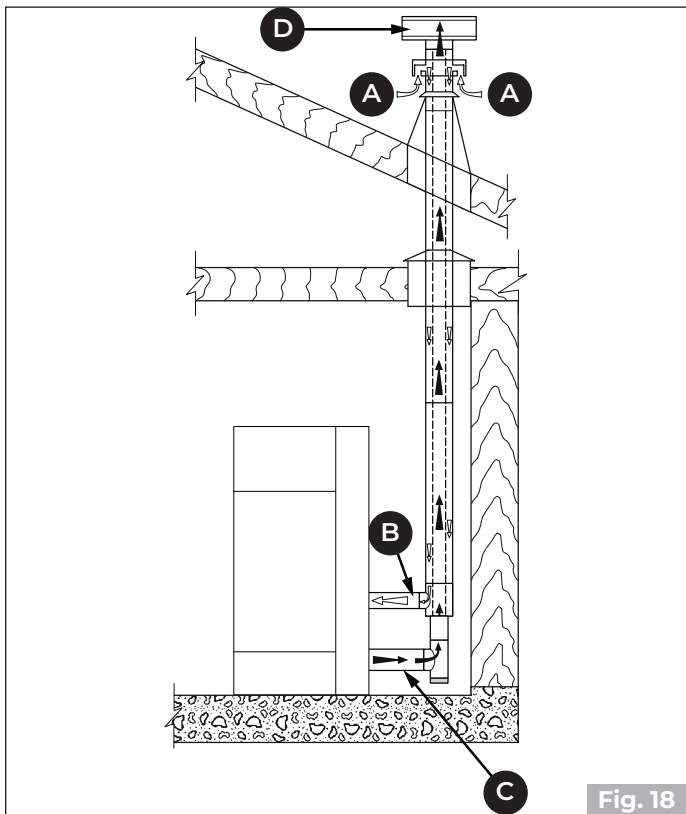

Fig. 18
- to channel the combustion air using a coaxial pipe to expel the flue gases and extract the air (**Fig. 16 - Fig. 18 - A, B = Air inlet, C, D = Flue gas outlet**); in this case it is not necessary to create a classic air intake in the room.